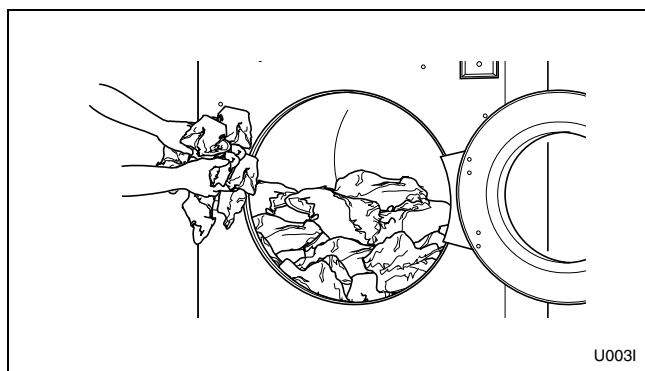

Figure 5
4. Load to capacity whenever possible. **DO NOT OVERLOAD.** Refer to *Figure 5*.